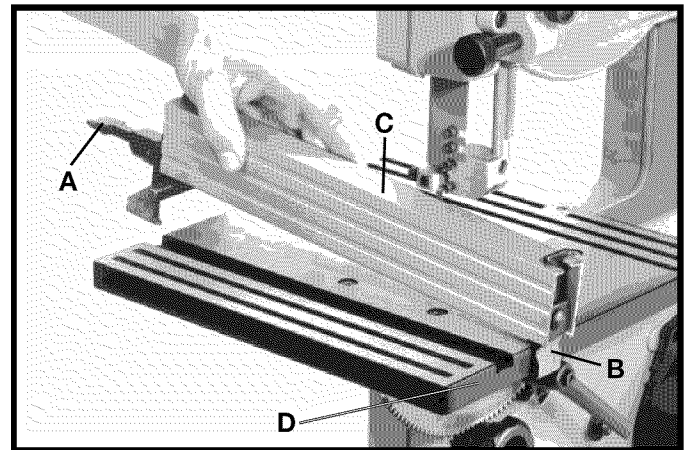

Fig. 14
1. With lever (A) Fig. 14, in the raised position as shown, assemble rear clamp (B) of rip fence (C) over lip of table (D).